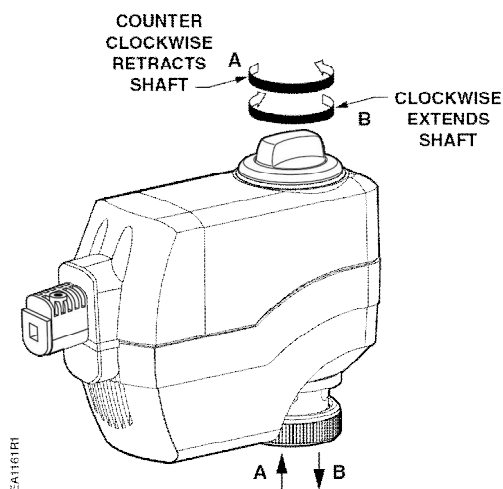
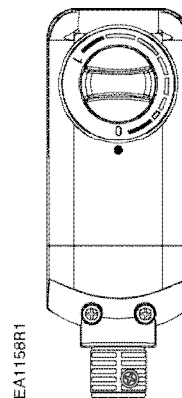

Figure 5. Manual Override.
Figure 6. Top View of Position Indicator (Shown in the 0 Position).
2. Turn the manual position indicator (see Figure 5 and Figure 6) on the top of the actuator to the **0** position and verify that the actuator shaft retracts completely.
For manual positioning, use the manual override knob in the center of the position indicator, See Figure 5.
Check the wiring and the position indicator (Figure 6).